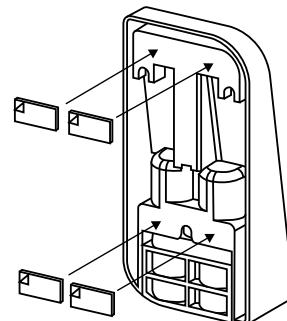

Fig. 7
- ② Attach the enclosed adhesive pads to the positions shown in the illustration and peel off the backing strips (Fig. 7).